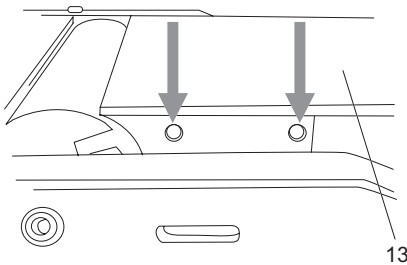

Fig. 3
- > Locate the 2 x guide fence mounting holes situated on the side of the planning out-feed table (13). (Fig. 3)